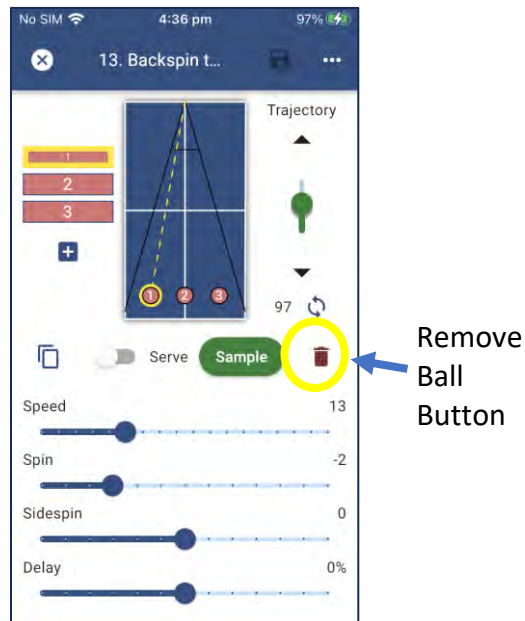

Figure 3-68
2. Select the Ball in the Drill that you wish to remove, by touching the appropriate Ball Selector. (Figure 3-68)
3. Press the Remove Ball Button Icon (Figure 3-68).